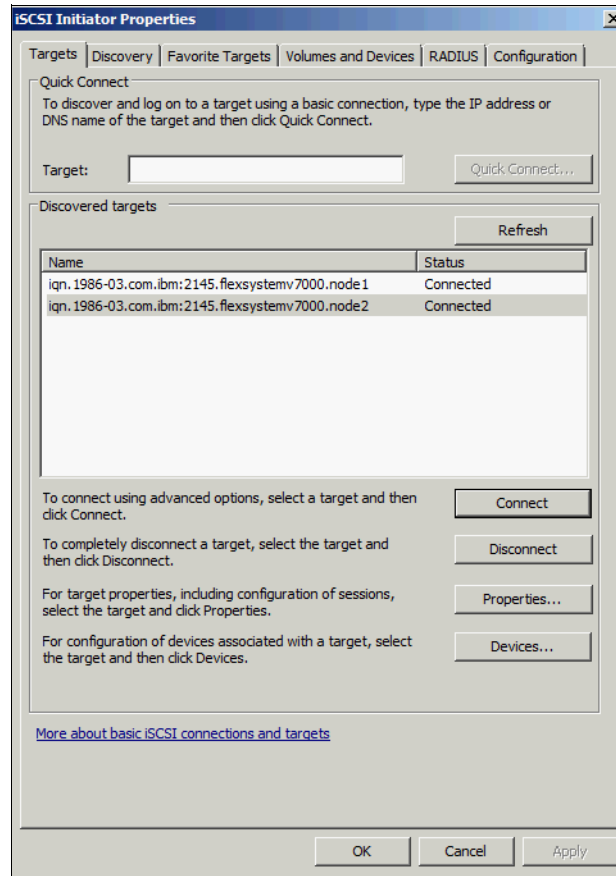

Figure 12-20 Second target port connected
8. Select the **Enable Multipath** check box and click **OK**. The second port now appears as Connected (Figure 12-20).